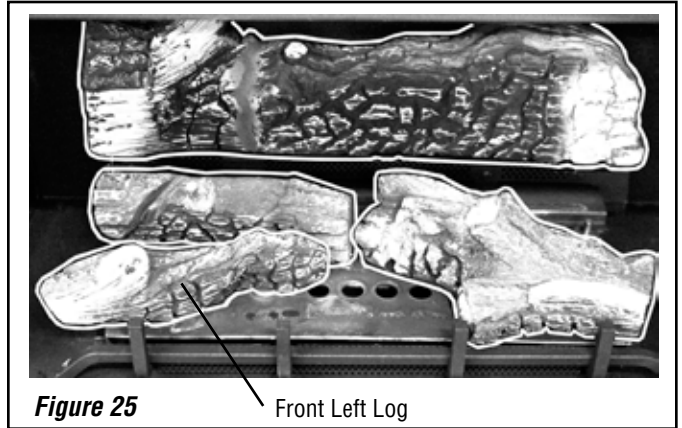

Figure 25 Front Left Log
4. Place the Front Left Log onto the two corresponding locating pins as shown in **Figure 25**.